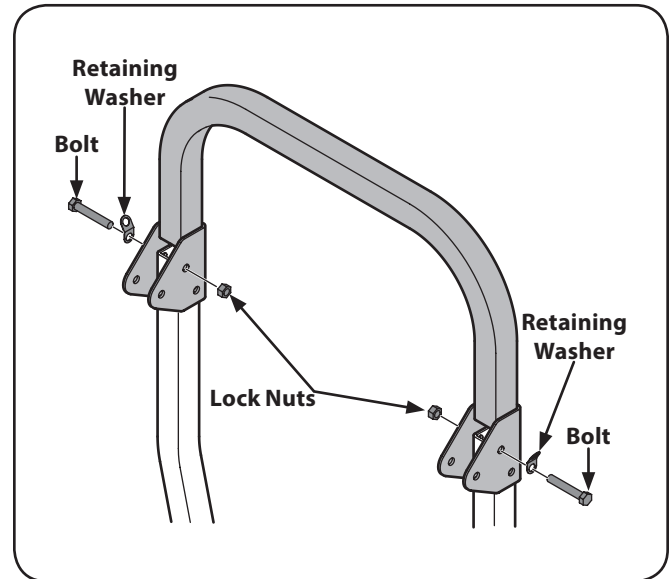

Figure 3-4
4. Install the upper ROPS section onto the lower ROPS “posts”. Install the bolts and nuts. See Figure 3-4.